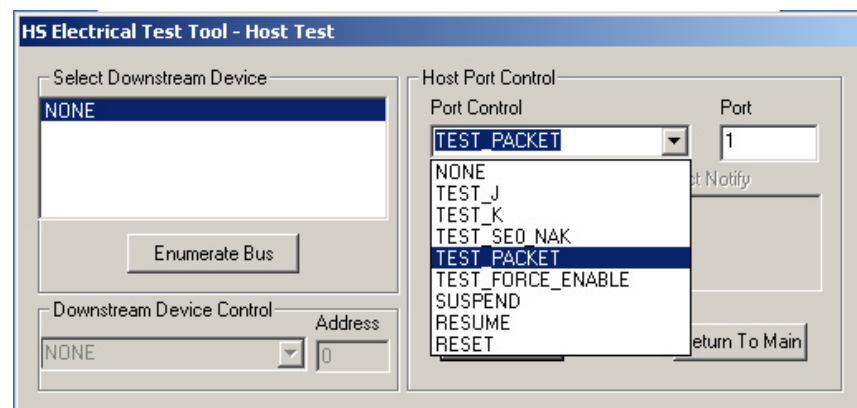

Figure 5. Electrical Test Tool with TEST_PACKET Port Control
8. Select TEST_PACKET from the Port Control drop down menu. Enter the port number of the port being tested and click [EXECUTE]. This forces the port under test to continuously transmit test packets (Figure 5)